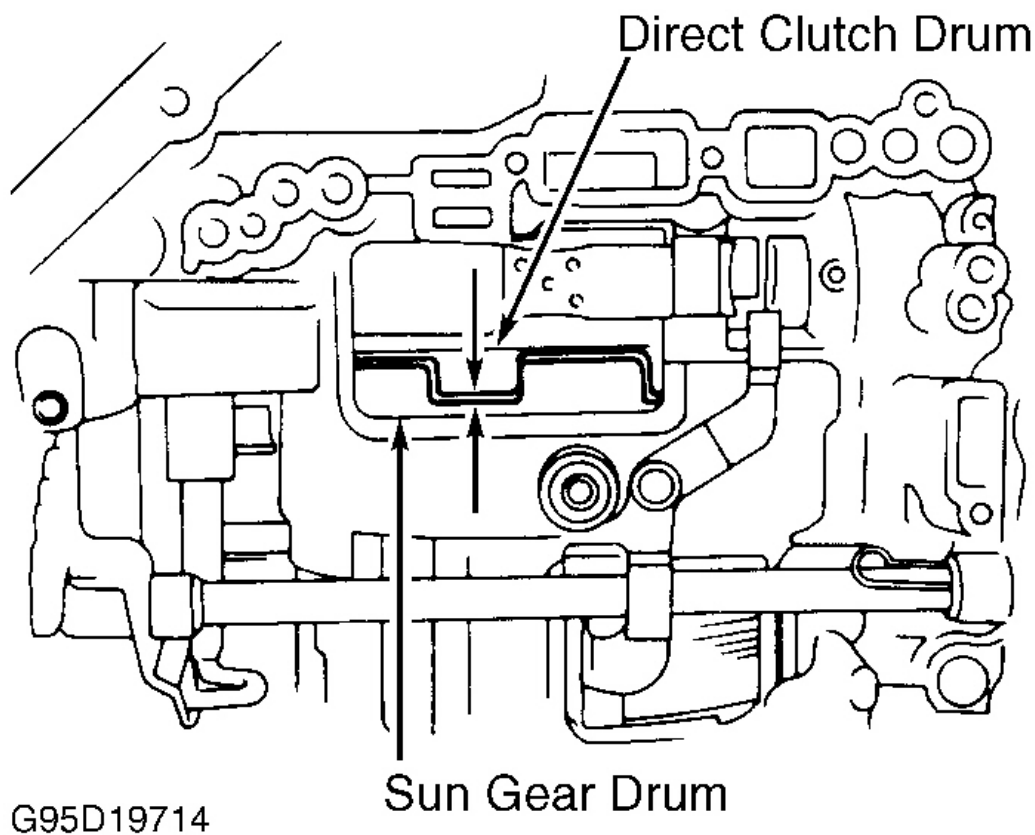

Fig. 61: Checking Direct/Forward Clutch Drum Assembly Installation
27. Rotate forward clutch to mesh with front planetary gear and discs. Install direct clutch and forward clutch into transaxle case. Check installation of direct/forward clutch assembly. Measure distance between direct clutch and sun gear drum (shell). See **Fig. 61**. Distance should be .118" (3.0 mm).